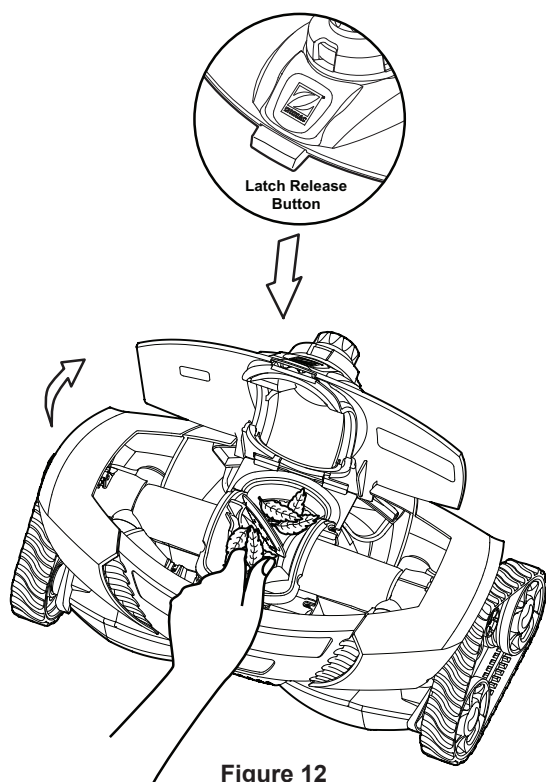

Figure 12
1. Push the latch release button on the top of the cleaner (Figure 12).